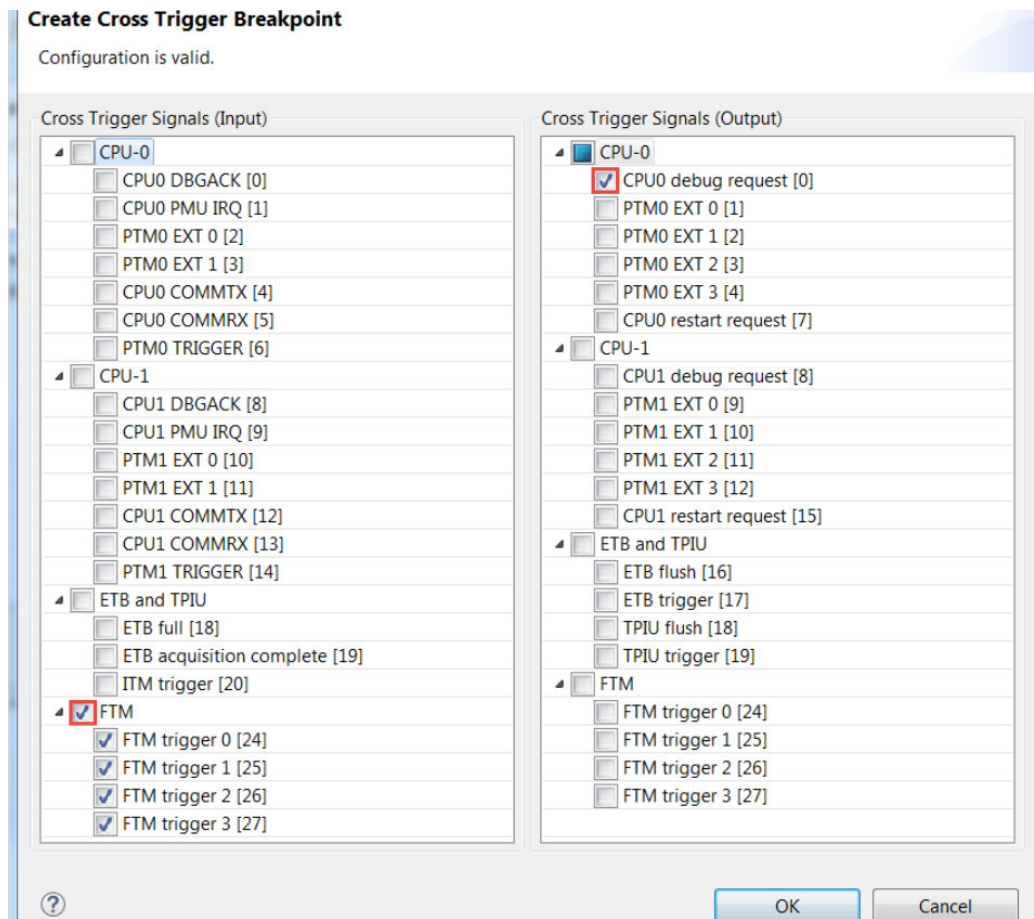

Figure 10: Enabling CPU0 for request to PL
12. In the **Cross Trigger Breakpoints** dialog box click **Create** again. Select the options as shown in Figure 10 and click **OK** to set up the cross trigger condition for Fabric to Processor.